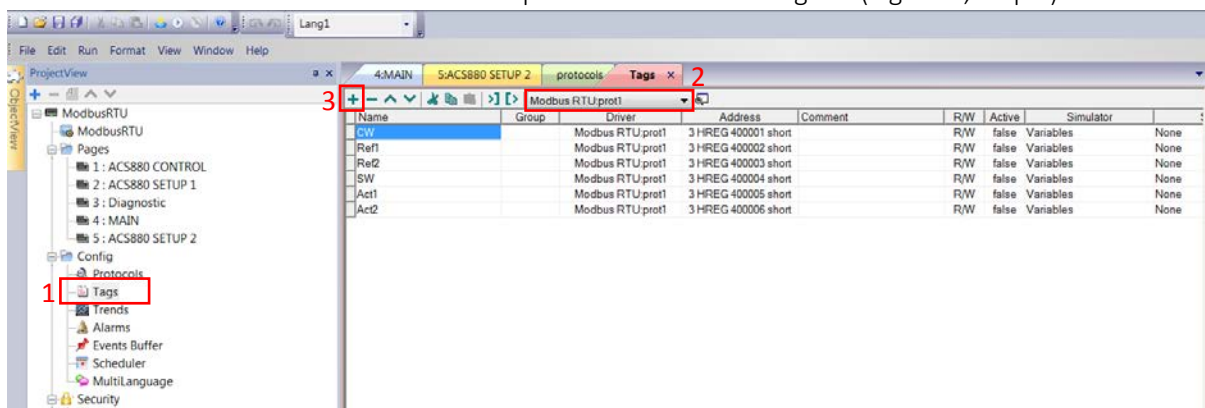

Figure 3- Creating tags
- 7.5. As shown in Figure 3 create tags for the CP600 project. First, double click "Tags" in the Project tree to open the "Tag" tab.
- 7.6. Select "Modbus RTU" from the drop down menu in the Tag tab (Figure 3, step 2).
- 7.7. Create 6 tags (Figure 3, step 3) and configure them per table 3. Note: to access the Modbus register setup click in the Address column for the tag you wish to edit and then click the ellipsis [...]